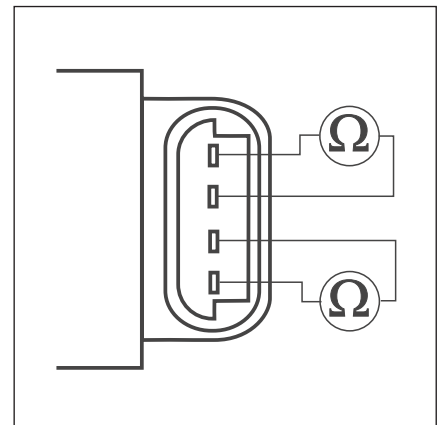

Fig.. 4 Resistance measurement on stepp motor
– Measure resistance of both stepp motor coils as shown in Fig. 4.